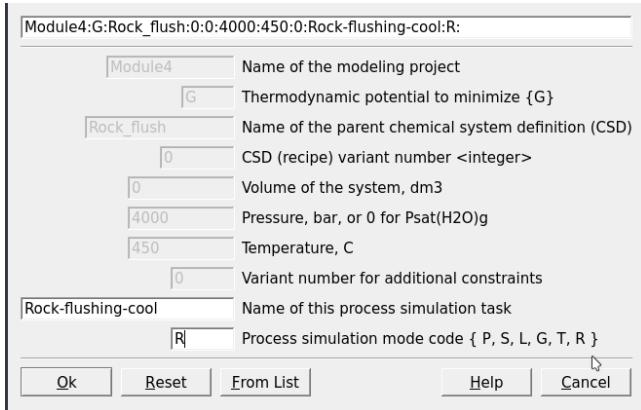

Figure 4.12: Input window the create a record for the flushing model.
- Call the new record “Rock-flushing-cool” and use the code R for the process simulation mode (Fig. 4.12).